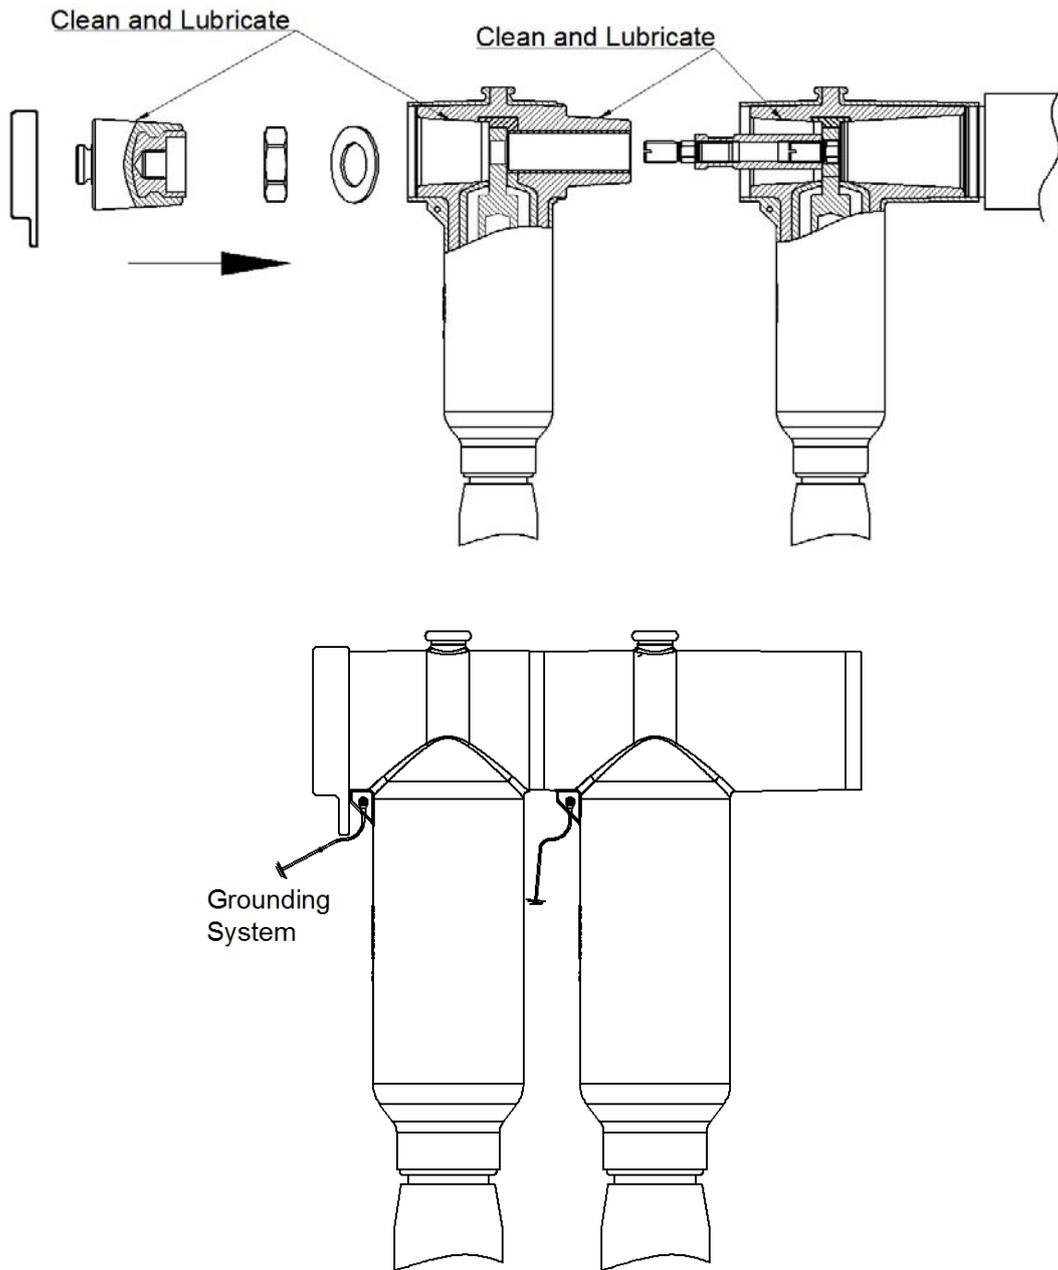

Fig.14
Step 10. Connect drain wire on front T-body /companion coupling (rear) T-body to grounding system. Clamp the cable below cable jacket seal. (See Fig. 14)